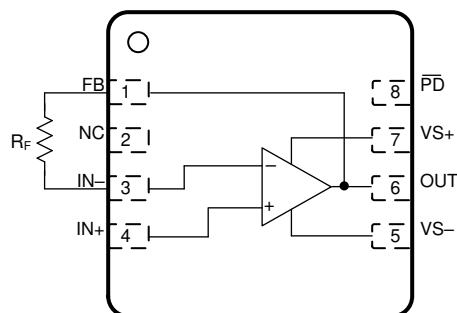

图 8-4. R_F Connection Between FB and IN $-$ Pins
1. A feedback resistor (R_F) can connect between the FB and IN $-$ pin on the same side of the package (see Figure 8-4) rather than going around the package.